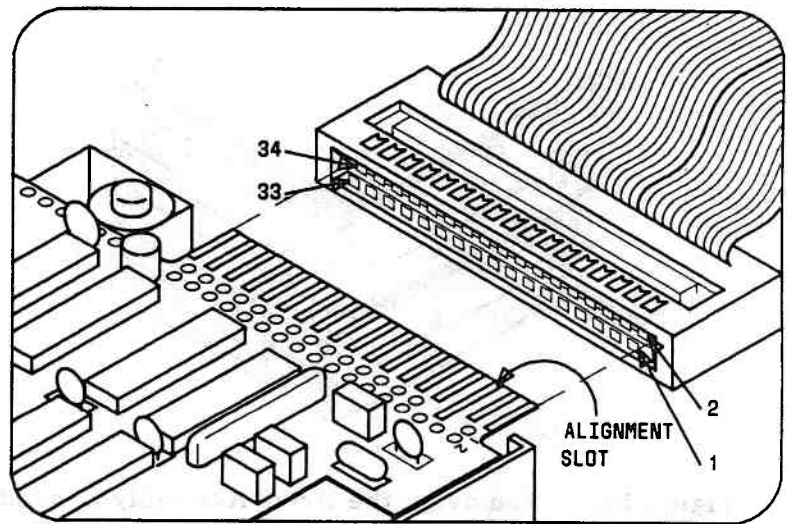

Figure 5-64. MFD Unit Signal Cable Connection
6. Remove the ribbon cables, power cables, and the ground connectors from the rear of both MFD Units (Figure 5-64).